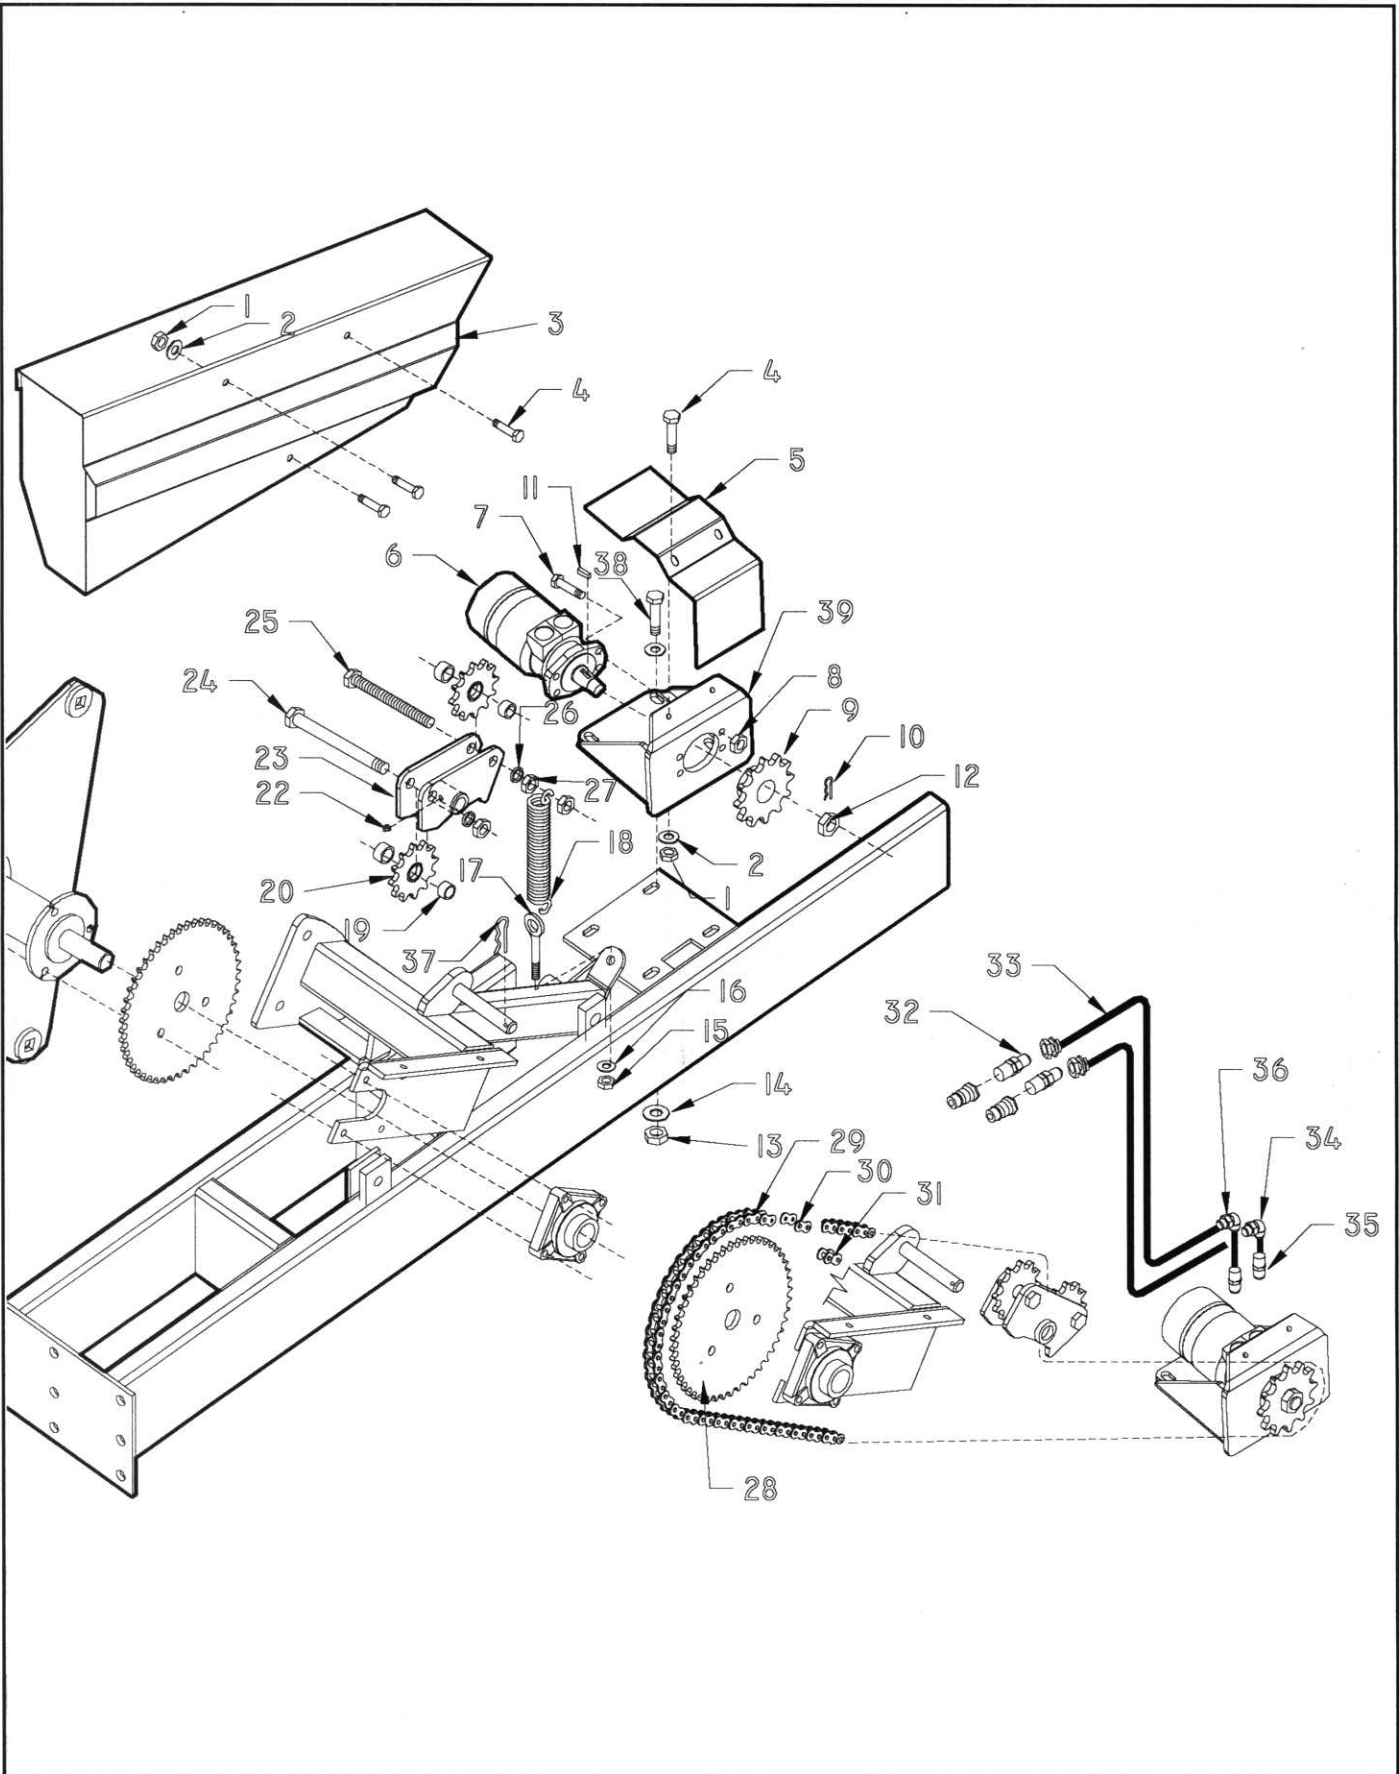

**FIGURE 5**
9. Refer to Figure 5. Route 109 Link #80 Roller chain through reel sprocket, chain tightener assembly and hydraulic motor sprocket as shown. Use connector link supplied to join the ends.